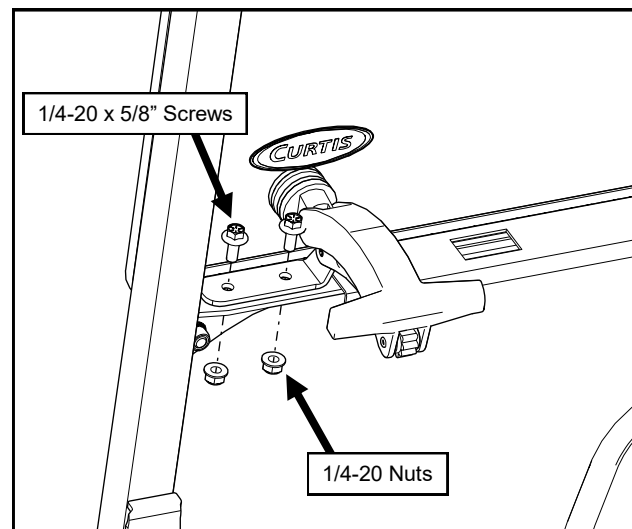

Fig. 9.2 (Secure Windshield Latches)
9.2 Secure the windshield latches to the A-pillars with the latches open and tighten latch hardware. See Figure 9.2.